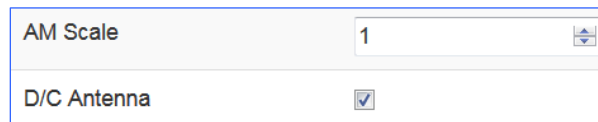

Figure 253: Antenna Controls Window, D/C Antenna Selection Checked
- Click on the box in the DC Antenna field to check the box and enable the option, as shown in Figure 253.